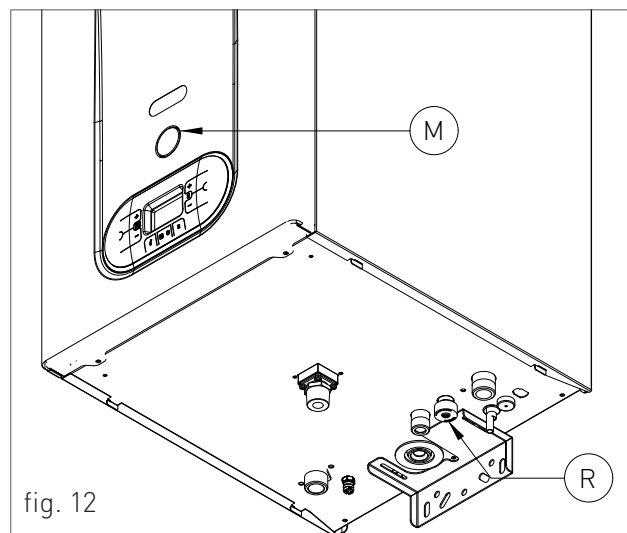
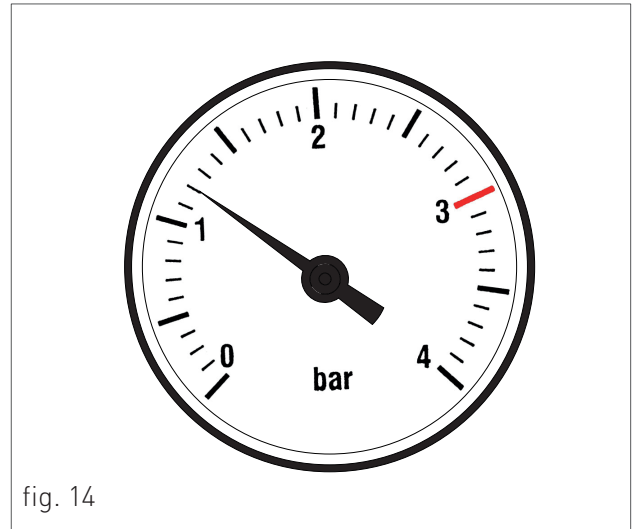

fig. 12
fig. 14
4. Open the feeding tap "R" (fig. 12);
6. Use pressure gauge "M" (fig. 12) to make sure that the system pressure reaches 1.2 bar (fig. 14);
7. After performing this operation, make sure that the loading tap "R" (fig. 12) is properly closed.
10. If after performing these operations you observe a decrease of the water pressure inside the system, open once again the loading tap "R" until the pressure gauge indicates the value of 1.2 bar [fig. 14]